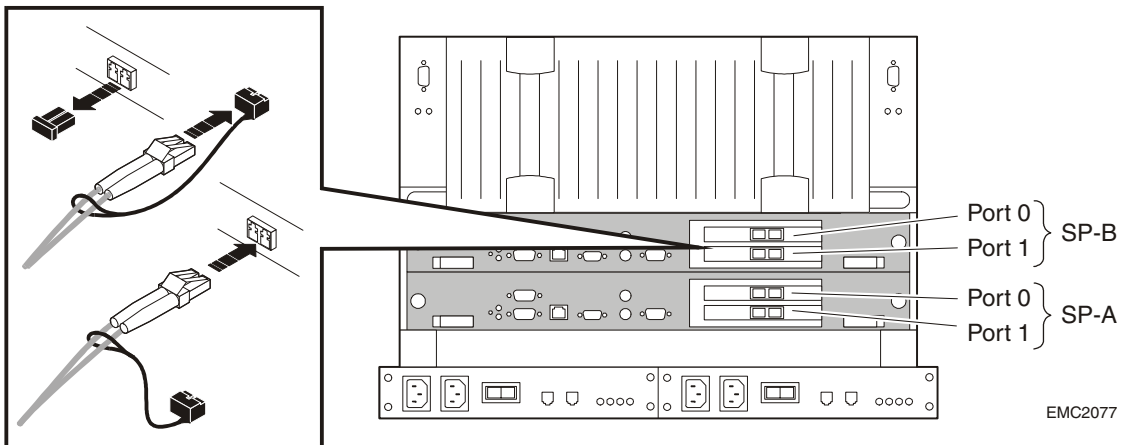

Figure 8 Reconnecting the Fibre Channel Cables
14. Connect the new LC-connector Fibre Channel cables from the switch or server to port 0 or port 1 on the SP as shown in Figure 8.